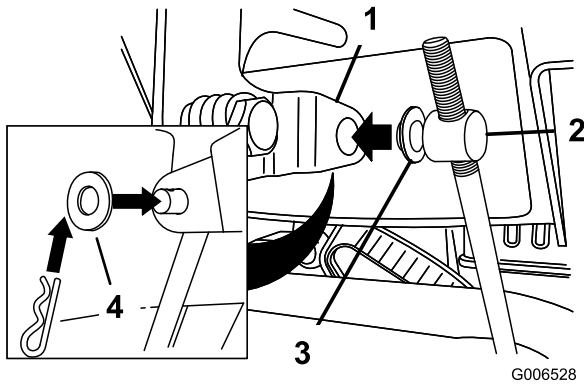

Figure 11
3. Remove the hairpin cotter and the outer washer from the trunnion on the upper end of the speed control rod (Figure 11).
Note: To make installation easier, leave the flat washer on the trunnion (Figure 11).
- Lift up on the speed control rod and insert the trunnion into the hole in the speed selector lever (Figure 11).